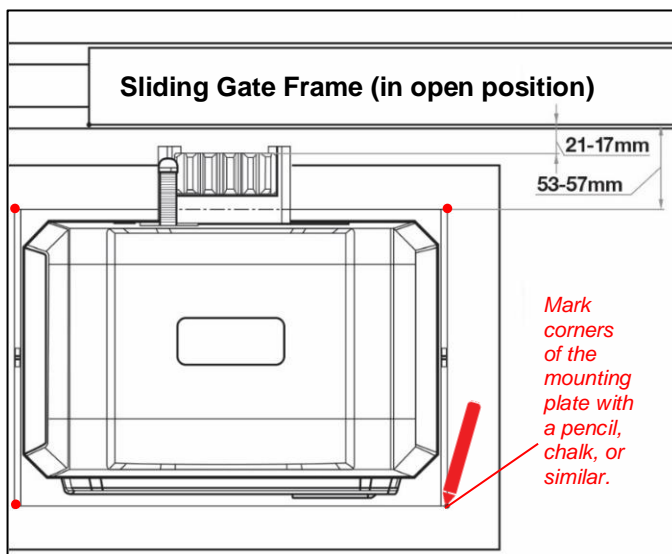

Fig 4
- Make sure the distance between the gate motor cog and gear rack position are aligned (see Fig 4)